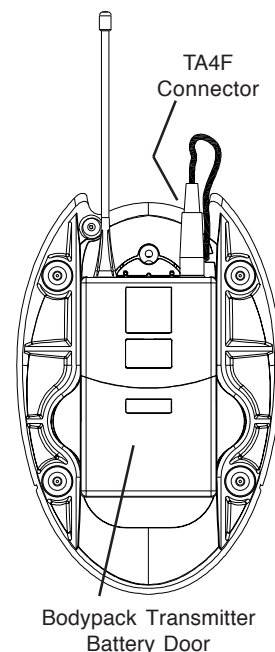

Figure 4: Bottom View with Bodypack Transmitter
- 4) Carefully insert TA4F connector into bodypack (see figure 4).
- 6) Test mic in actual use situation, and set audio gain on bodypack transmitter for optimal gain through wireless system. Note: battery door may be opened to access gain adjustment in bodypack, without removing bodypack from base (see figure 4).